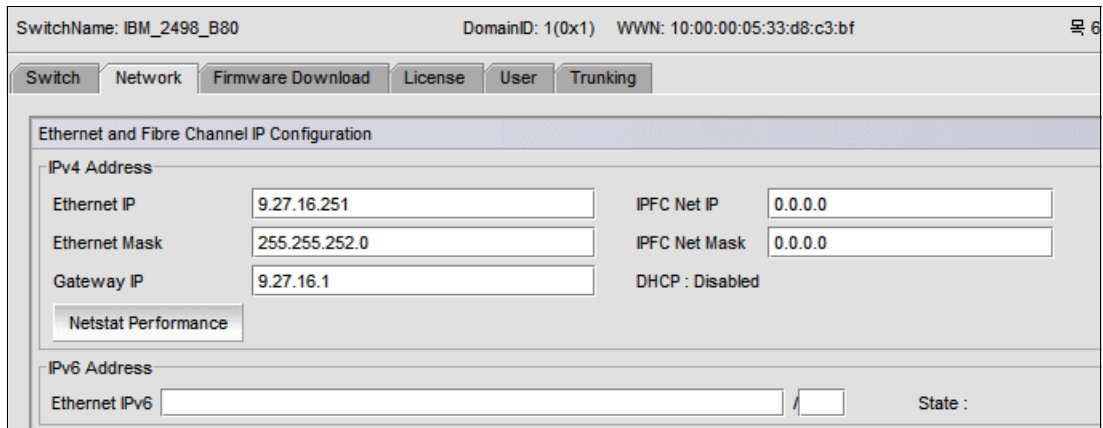

Figure 6-158 Ethernet IP address of the IBM SAN B80 switch
3. Note the IP address in the **Network** tab as shown in Figure 6-158.